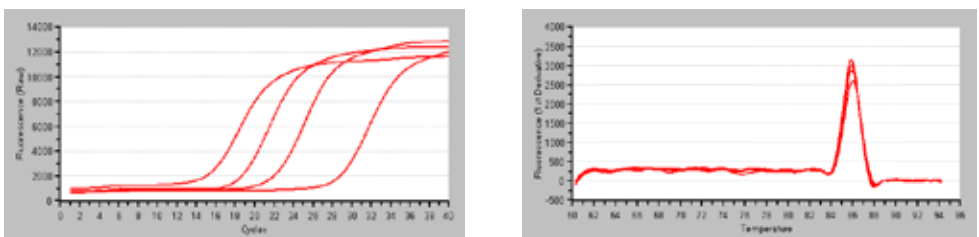
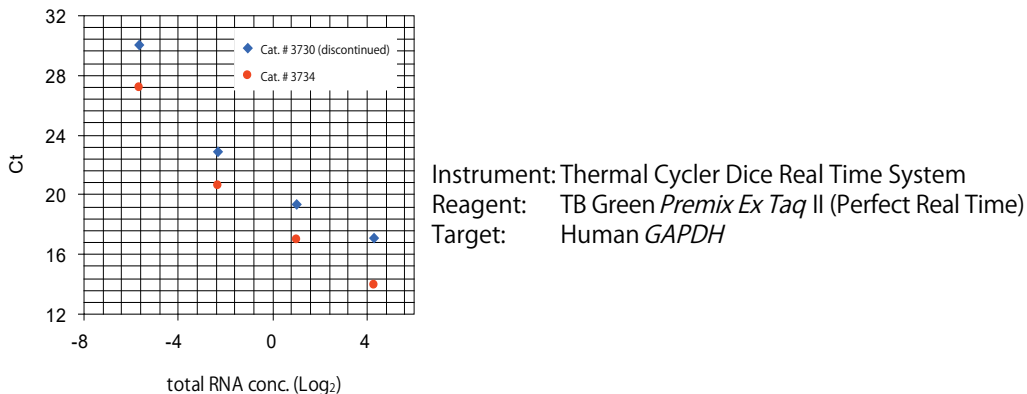

Figure 2B. Use of the 40-fold diluted cDNA amplification product as template
Figure 2C. Comparison of Ct values (10-fold diluted cDNA)
(2) Figure 2A - C shows the detection of human *GAPDH* using real-time PCR. When 10-fold dilutions of each of the cDNAs were used as a template (Figure 2A), the background was observed to be somewhat increased with CellAmp Whole Transcriptome Amplification Kit (Real Time), but target gene detection with a lower background was possible with the Ver.2 kit. When the cDNA was diluted 40-fold, the target gene was readily detected even with CellAmp Whole Transcriptome Amplification Kit (Real Time) (Figure 2B). Comparison of the Ct values shown in Figure 2C indicate that the Ver.2 kit provides superior amplification efficiency.